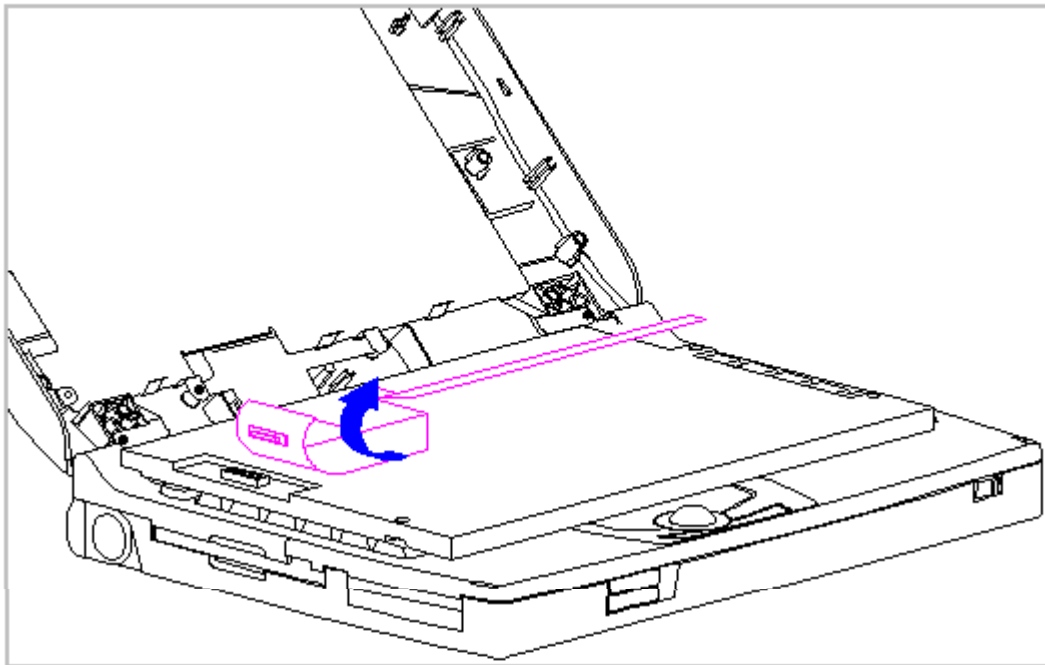

Figure 5-101. Removing the CTFT (10.4 inch) Display Cable from the Panel
9. Remove the display cable from the connector on the back of the panel by pulling upward on the tabs on the back of the connector (Figure 5-101).